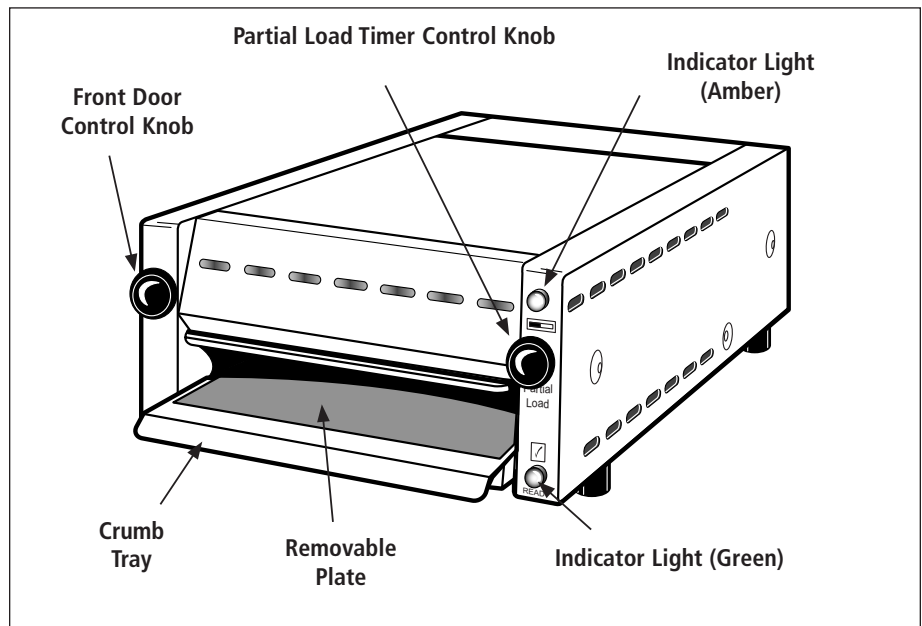

Figure 1. Muffin Toaster MT-12
3. From the front of the toaster, raise the Crumb Tray, and remove it from the unit (Figure 1).
4. Lift the Removable Plate from the Crumb Tray (Figure 1).
7. Close the Front Door, press and release the Partial Load Control Knob on the right front of the toaster until the Amber light is lit (Figure 1). Start the stopwatch.